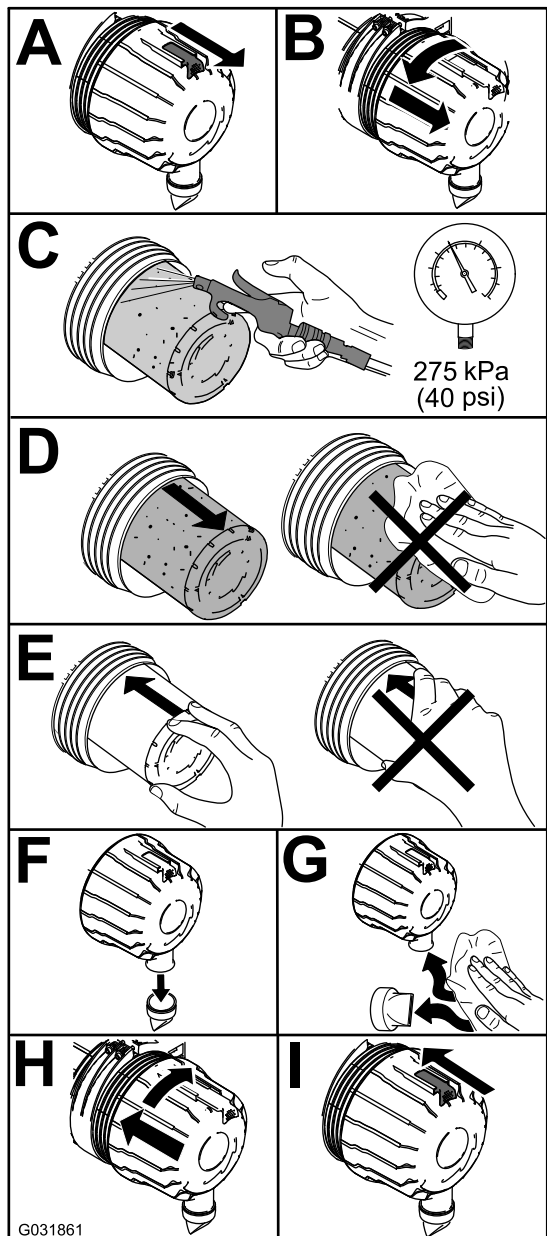

**Figure 55**
- Rear roller bearings (2 per cutting unit) as shown in Figure 55